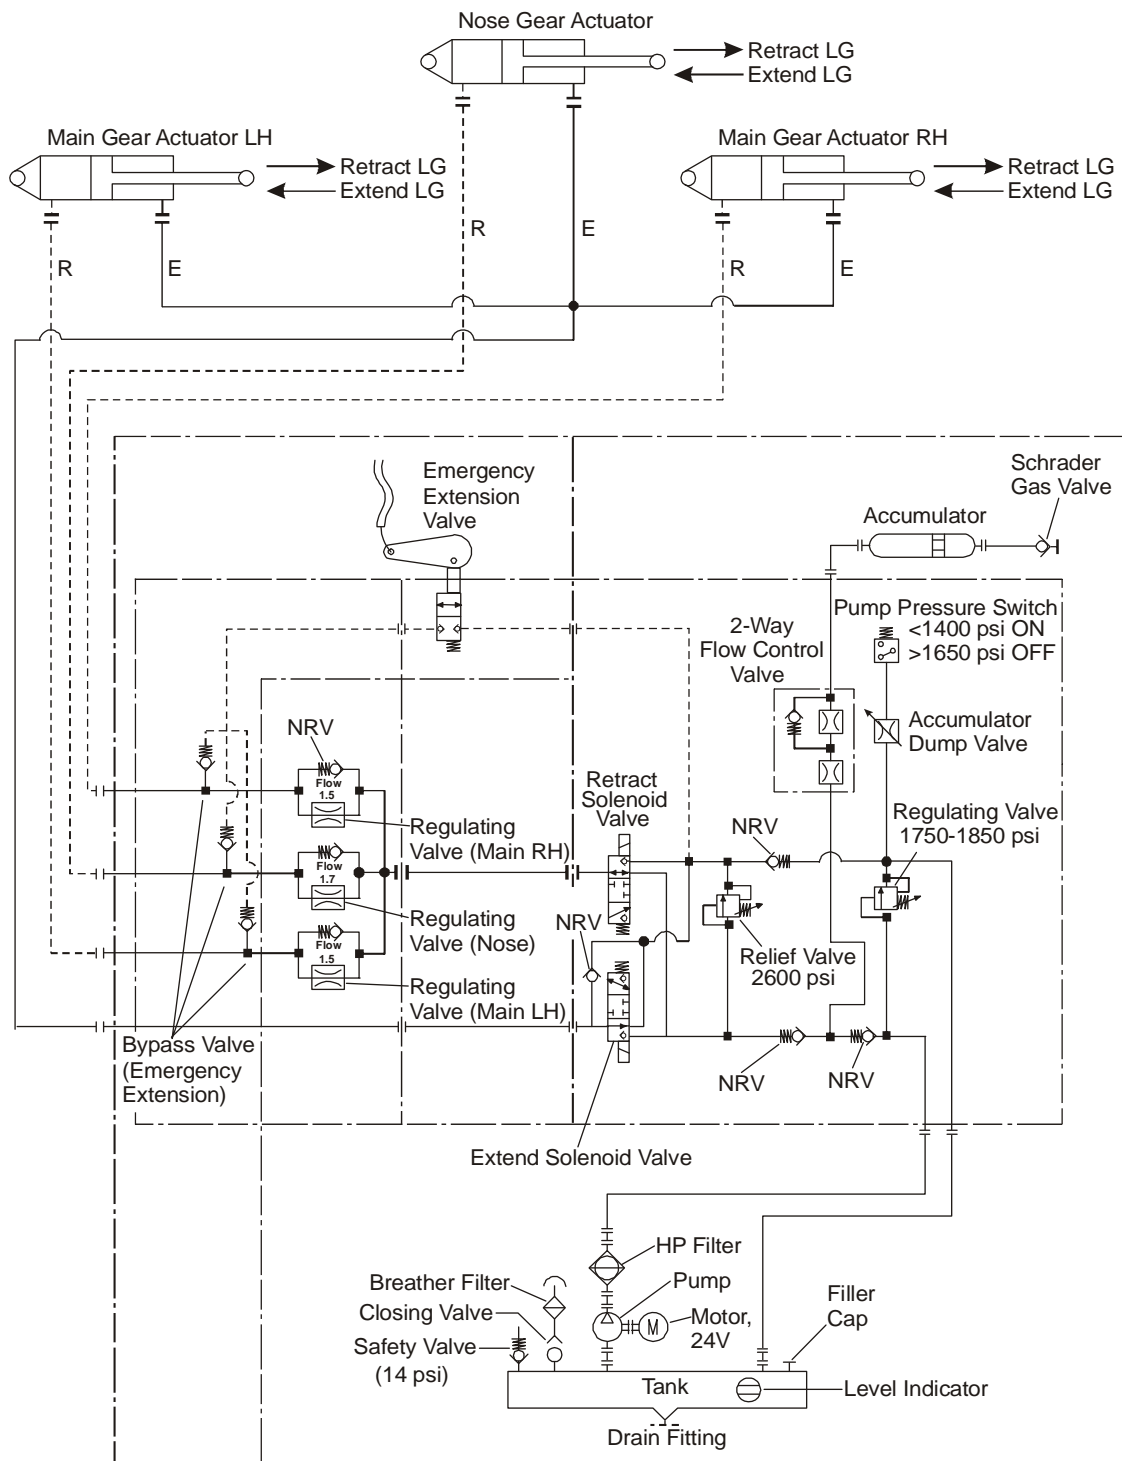

Figure 5: Hydraulic Schematic Diagram - 'Full Pressure' Retraction Operation
- When the landing gear is fully retracted the nose landing gear UP micro-switch operates and the extend solenoid valve is energized and moves to the 'full pressure' position (Figure 5). Fluid returning from the extend side of the actuators flows through the extend solenoid valve and back into the reservoir. The full pump pressure acting on the retract side of the actuator pistons holds the landing gear in the fully retracted position.